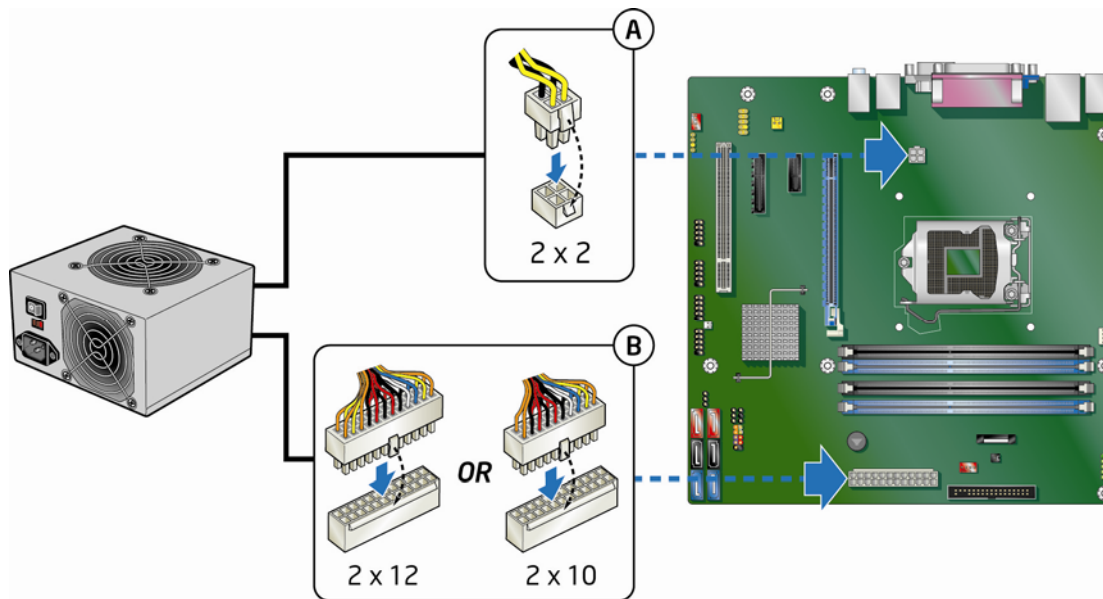

Figure 25. Connecting Power Supply Cables
Failure to use an appropriate power supply and/or not connecting the 12 V power connector (Figure 25, A) to the Desktop Board may result in damage to the board or the system may not function properly.
Figure 25 shows the location of the power connectors. The 2 x 12 pin main power connector (Figure 25, B) is backwards compatible with ATX12V power supplies with 2 x 10 connectors.
2. Connect the 12 V processor core voltage power supply cable to the 2 x 2 pin connector (Figure 25, A).
3. Connect the main power supply cable to the 2 x 12 pin connector (Figure 25, B).